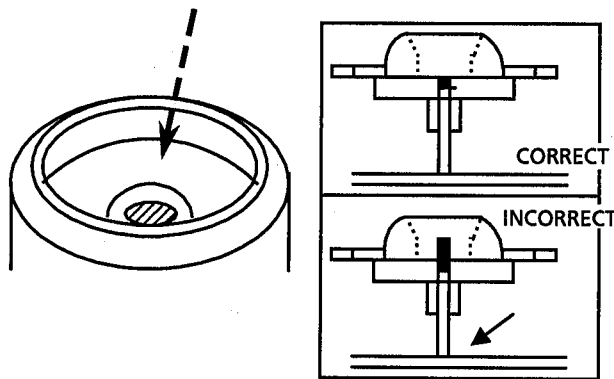

Fig. 53
- (34) After inserting the turntable, bond the motor shaft and turntable together (at the section marked by an arrow in fig 53 on the left below).**
Be extremely careful not to allow bonding agent to adhere to the motor bearing (the section marked by an allow in fig. 53 on the right).